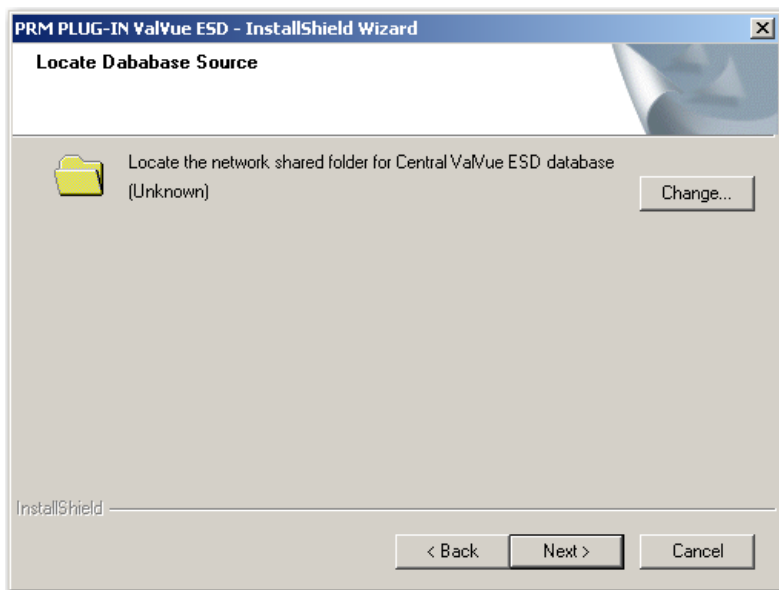

Figure 17 - PRM Plug-In Client Database Location Destination Folder
6. Navigate to the desired folder, click **OK** and **Next** and the screen appears (*Figure 17*).